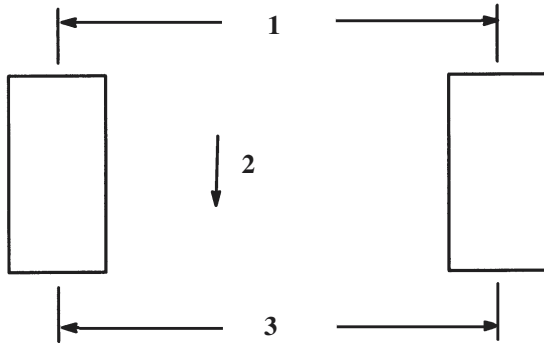

Figure 27
2. Measure the distance between both of the front tires at axle height (at the front and rear of the wheels) (Fig. 27). The front measurement must be equal to the rear measurement \pm 1/4 in. (6.4 mm).